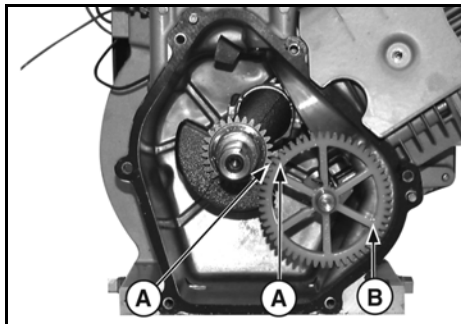

Figure 2
5. Rotate crankshaft until timing marks (A, Figure 2) are aligned. With camshaft in this position, the valve tappets will remain clear of cam lobes. Lift out camshaft (B).